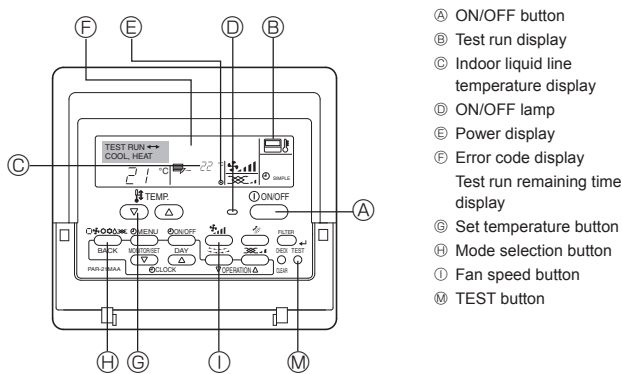

Fig. 7-1
7.2.1. Using wired controller (Fig. 7-1)
- Press the [TEST] button (K) twice. ⇒ "TEST RUN" appears on the liquid crystal display.
- Press the [Mode selection] button (H). ⇒ Make sure that wind is blown out.
- Press the [Mode selection] button (H) and switch to the cooling mode. ⇒ Make sure that cold wind is blown out.
- Press the [Fan speed] button (J). ⇒ Make sure that the wind speed is switched.
- Release test run by pressing the [ON/OFF] button (A). ⇒ Stop